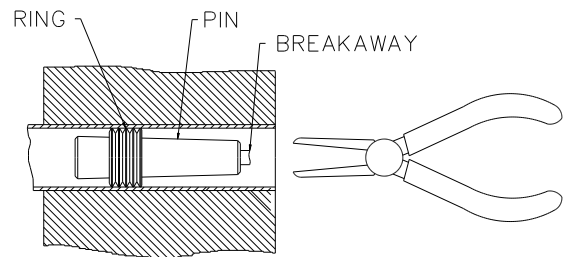

FIGURE 1
1. Remove broken end of breakaway with needle nose pliers or by using a pencil eraser. (Figure 1). (See alternate procedure 1 below, if breakaway cannot be removed).